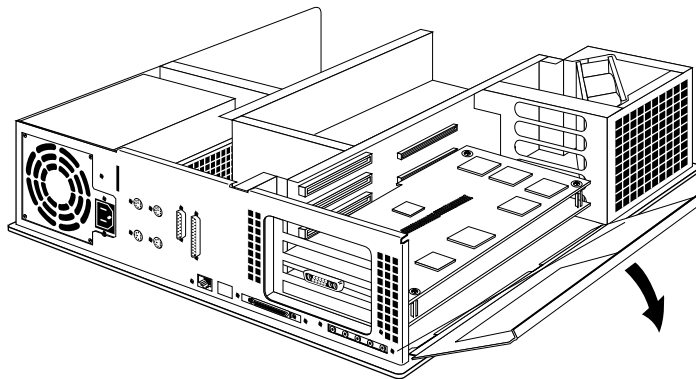

Figure 8-4 Lowering the Metal Panel in Front of the Expansion Slots
2. Move the system or position yourself so that you are facing the expansion slots, as shown in Figure 8-4.
3. Open the metal panel in front of the expansion slots by pulling up on the panel and lowering it. Figure 8-4 shows an XZ graphics board set.